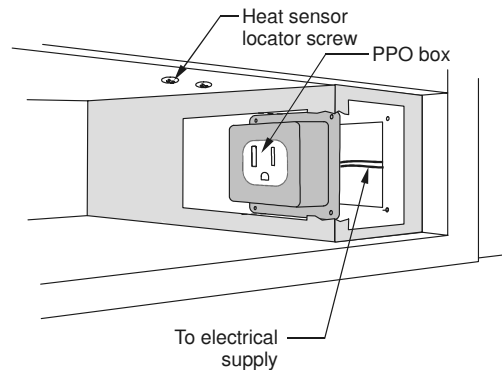

Figure 5 Installing the PPO Box.
- If the PPO box has not been factory installed, ensure that the household electrical supply is shutoff at the breaker or fuse, and connect the two wire leads from the box to the household electrical supply. Insert the PPO box into the square hole in the right-hand side of the control compartment and screw into place using self drilling hex screws as shown in Figure 5, 6 and 7.